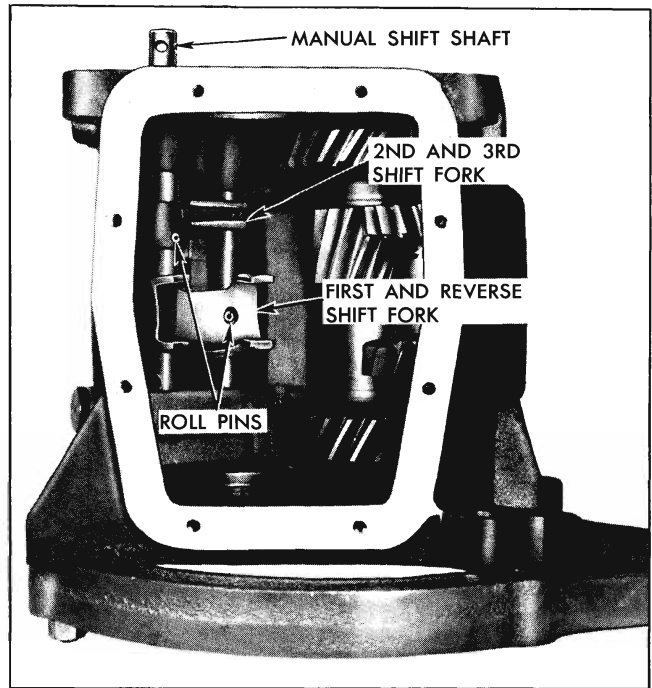

Fig. 7-31 Transmission Shift Forks
10. With suitable punch, drive out roll pin securing second and third shift fork (Fig. 7-31) to shaft. Then tap shaft toward front of case with a drift and remove fork, shaft, and roll pin.